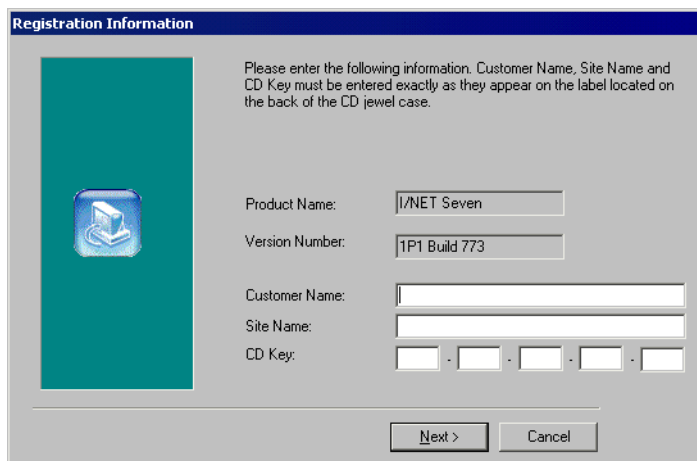

Figure 2-4. Registration Information Dialog Box
7. Setup displays the Registration Information dialog box (see Figure 2-4).